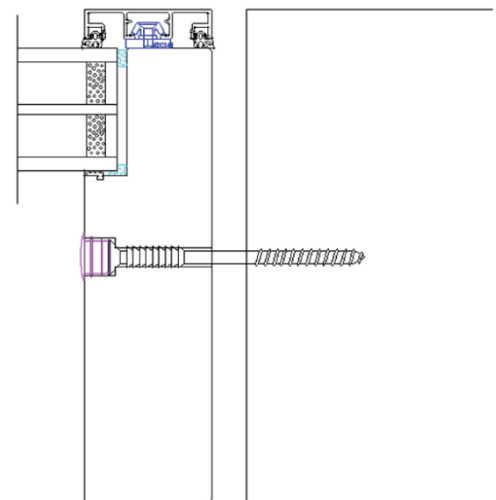

Figure 4. Drilling the holes for the mounting screws
4. Drill the holes for the mounting screws for the vertical parts of the casing approximately in the middle of the casing and 500 mm apart using a frame drill bit (Figure 4). The frame plugs supplied with the product are suitable for 13 mm holes.